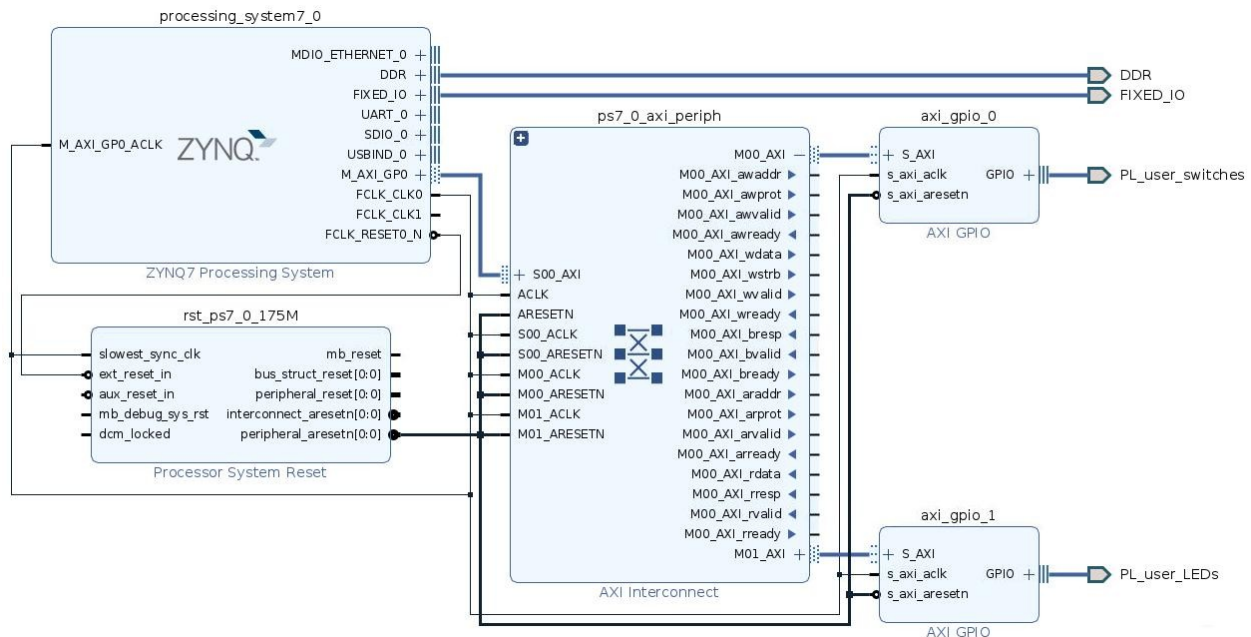

Figure 2: View of the example Vivado block design
9. The final block design should be as on the Figure 2.